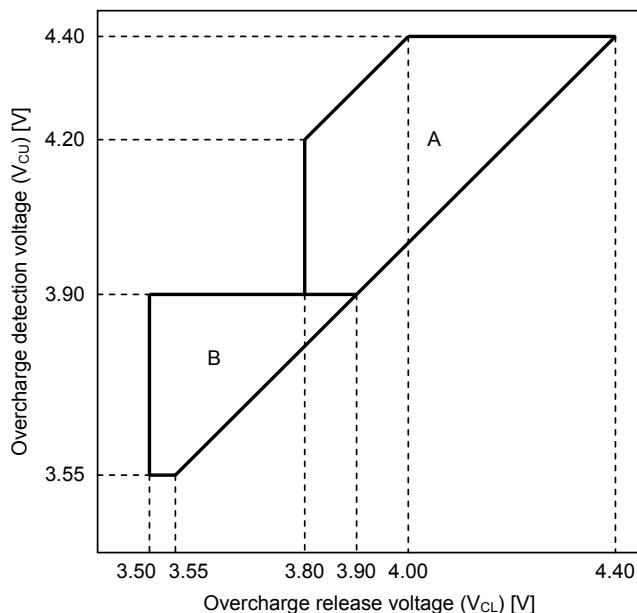
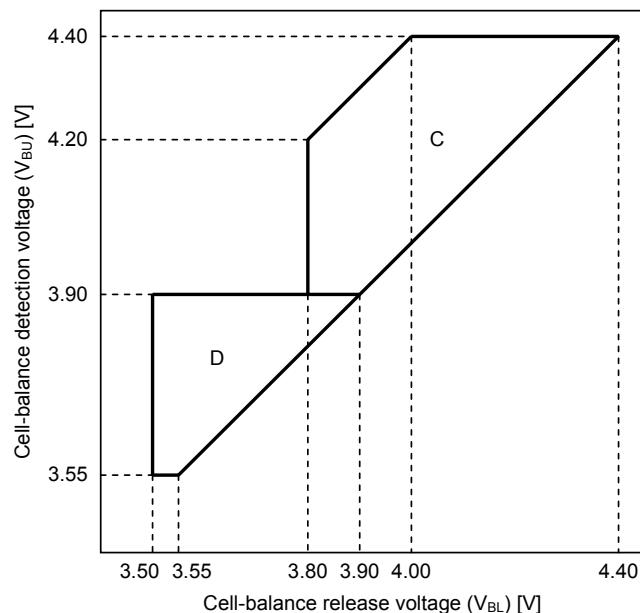

Figure 2
Figure 3
3. Please contact our sales office for the products with detection voltage value other than those specified above. Users are able to select the overcharge detection voltage, overcharge release voltage, cell-balance detection voltage and cell-balance release voltage from the range shown in **Figure 2** and **Figure 3**. Users are able to select how to combine the overcharge detection voltage (V_{CU}) and the overcharge release voltage (V_{CL}) from the range A or B shown in **Figure 2**^{*1}. Similarly, select how to combine the cell-balance detection voltage (V_{BU}) and the cell-balance release voltage (V_{BL}) from the range of C or D shown in **Figure 3**^{*2}. In selecting the combination of V_{CU} and V_{CL} from the range A, select the combination of V_{BU} and V_{BL} from the range C. Similarly, in selecting the combination of V_{CU} and V_{CL} from the B range, select the combination of V_{BU} and V_{BL} from the range D^{*3}.